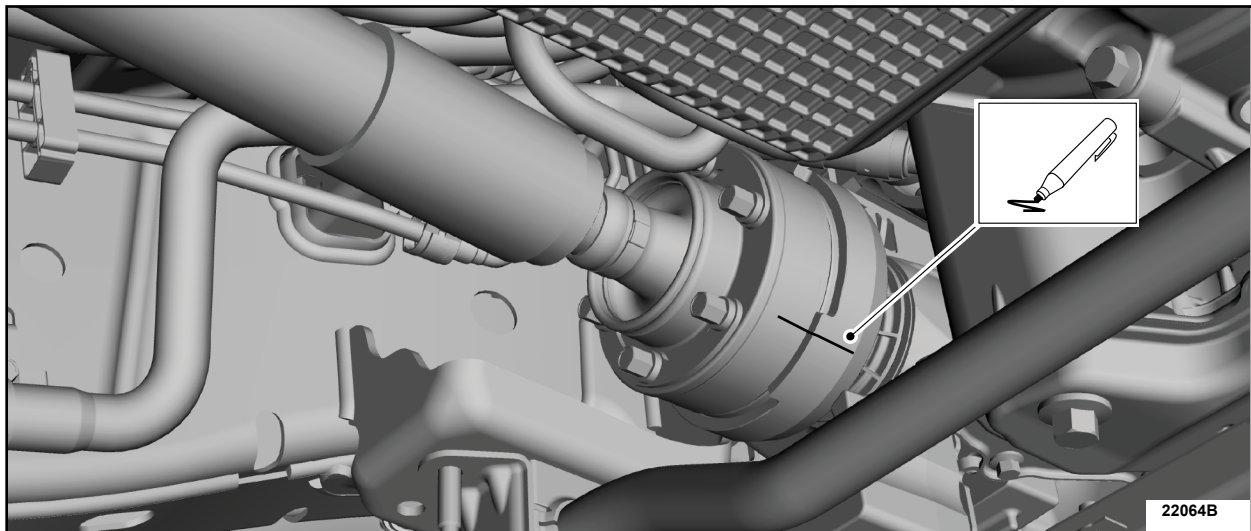

FIGURE 2
2. Index-mark the front driveshaft flange CV joint to the pinion flange cup. See Figure 2.